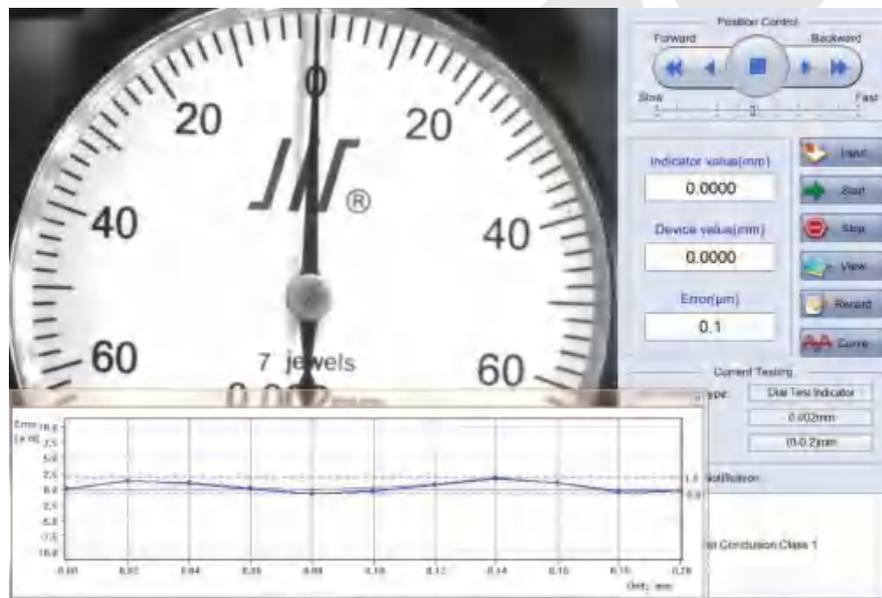

Figure 5-18 Measurement finished
6. After measurement, you can click the “Record management” button to view the measured data. And the “Measurement guidance” window will show the measurement results. See figure 5-18